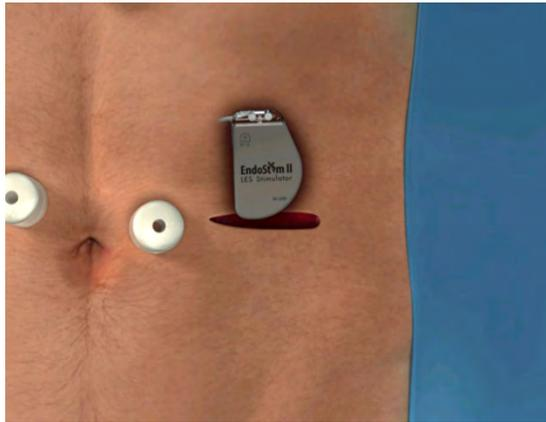
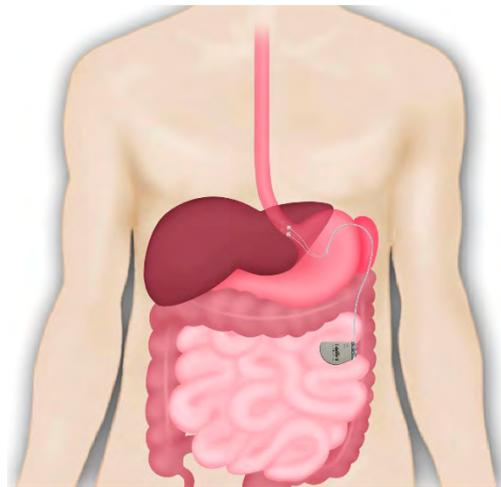

Figure 14 IPG Pocket Insertion
Figure 15 Lead Routing and final IPG Position
1. Place the IPG into the subcutaneous pocket using a delicate rotational maneuver (Figure 14). Ensure that the EndoStim logo faces up. Once the IPG is partially inserted inside the pocket use a delicate clockwise rotational maneuver to bring it to its final horizontal position (Figure 15).
2. Ensure that any curve taken by the lead is gentle. This should reduce the chance for kinks and premature failure (Figure 15).